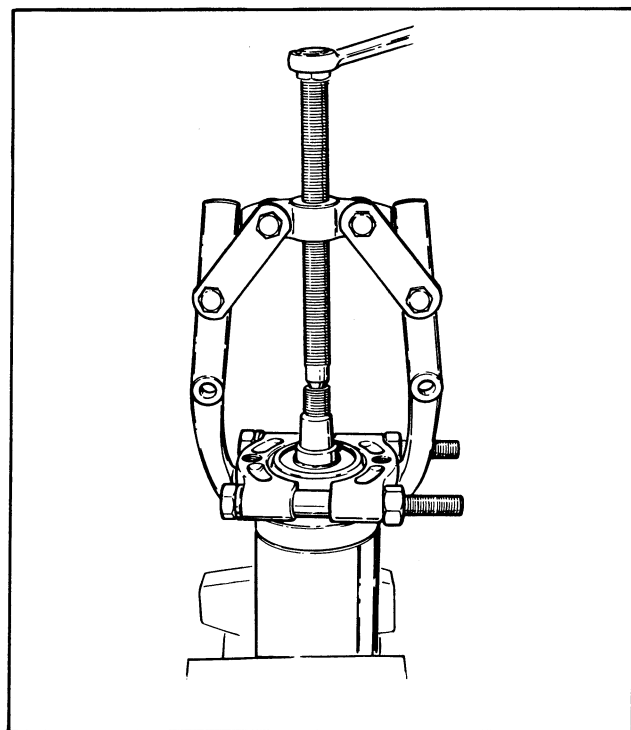

Figure 99 – Removing Armature Bearings
- e. To separate commutator bearing (19) or drive end bearing (19A) and spacers (20) from armature (11), use claw puller tool and wedge attachment tool. See Figure 99.